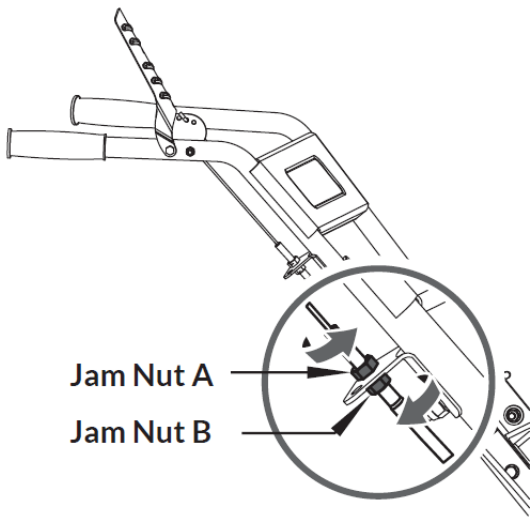

Figure 24
1. Loosen Jam Nut "A" and "B" with two 12mm wrenches (**Figure 24**)